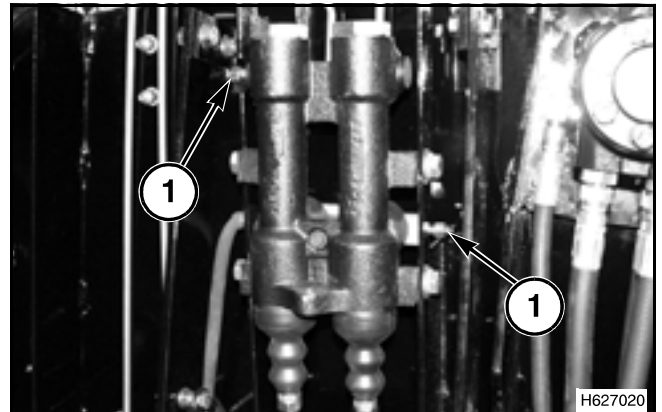

FIG. 115
FIG. 115: Open the bleed screw (1) on the left-hand side of the master cylinder while pushing both pedals down. Close the screw on the up stroke. Repeat this procedure for both brake pedals until a stream of brake fluid is released from the brake bleed screw that does not contain any air bubbles.